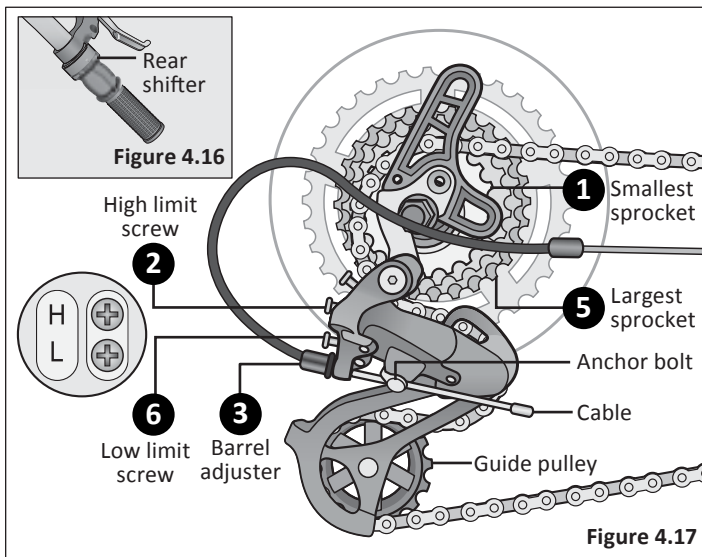

Figure 4.17
- 2 Adjust the high limit screw so the guide pulley and the smallest sprocket are lined up vertically. Turn the high limit screw clockwise to move the pulley away from the frame; counter-clockwise to move the pulley towards the frame **Figure 4.17**